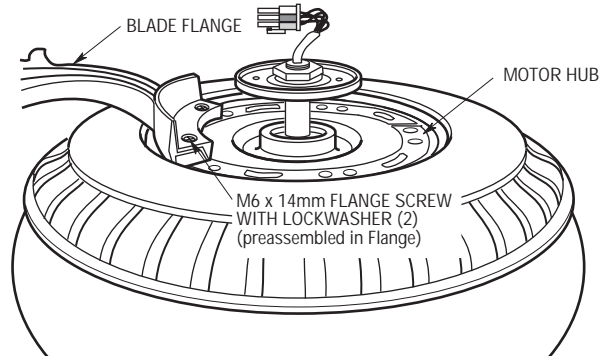

Figure 3
- 4. Loosely attach one blade assembly to the motor hub using two M6 x 14mm stainless steel flange screws with lockwashers preassembled in flange (Figure 3). Make sure the screws are **NOT** tightened. Repeat this procedure for the other four blade assemblies.